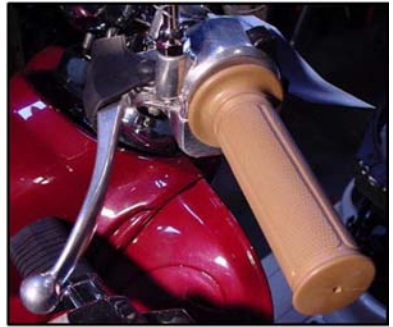

Fig. 11
- Check the rear brake free play by measuring how far the tip of the brake lever will move until it begins to resist further movement. (See Figs 11 & 12)
Brake lever at rest. (See Fig. 11)